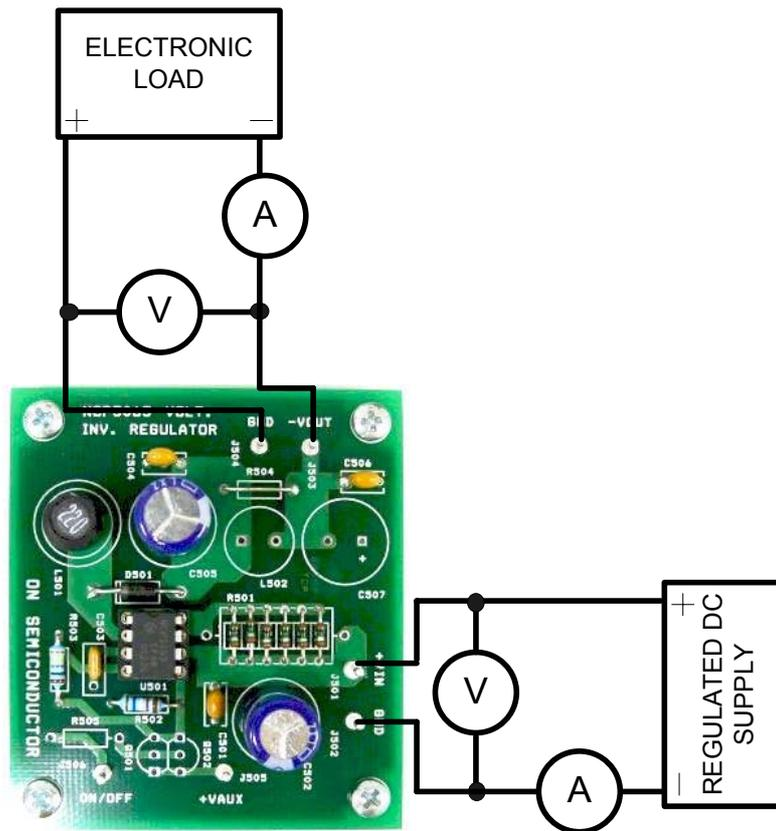

Figure 1: Test Setup DIP
- 1. Connect the test setup as shown in Figure 1.**